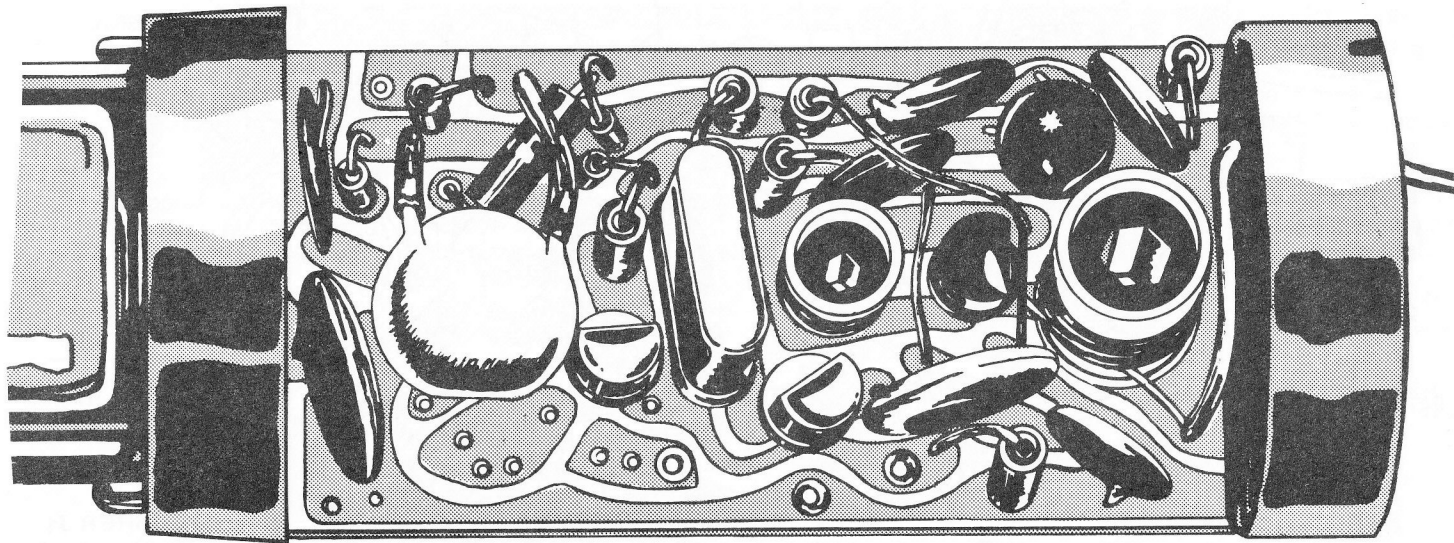

FIG. 2B TOP VIEW, "B" CONFIG. TRANSROC, SPIN-RATE MODE
- 4B. () Connect the leads of the photocell to the eyelet terminals from which R5 was just removed. Use the insulated sleeving on the photocell leads. Install the photocell as shown in Figure 2B with the black side toward the PC board. CAUTION! Handle the photocell with care. Do not disturb the two-color paint coating. To do so would change the masking characteristics.
- 5B. () Inspect the completed assembly to verify that it looks like Figure 2B. If Q2, C9, C11, R11, and R12 have previously been added for use of the microphone accessory, they do not need to be removed. (See Figure 23 in the "TRANSROC Owner's Manual.")